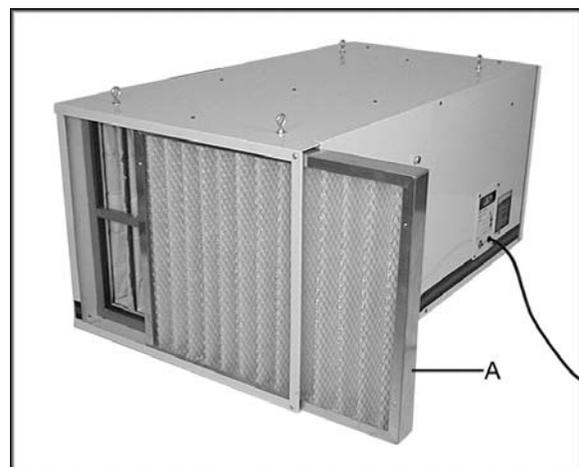

Figure 4
**Outer Filter:** Remove from the side of the cabinet (A, Figure 4). This filter should be replaced depending on the usage and environment of your shop. JET sells a replacement metal framed filter that can be blown out or washed, (stock # 708724 shown in figure 4).